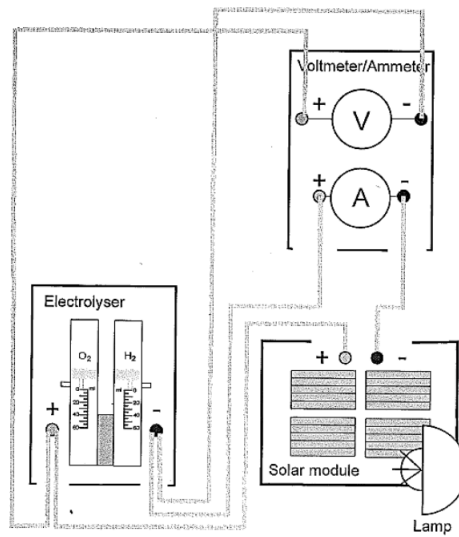

Figure 7: Setup for the electrolysis of water experiment. [1]
1. Set up the apparatus like in **Figure 7**, making sure the correct terminals are connected.